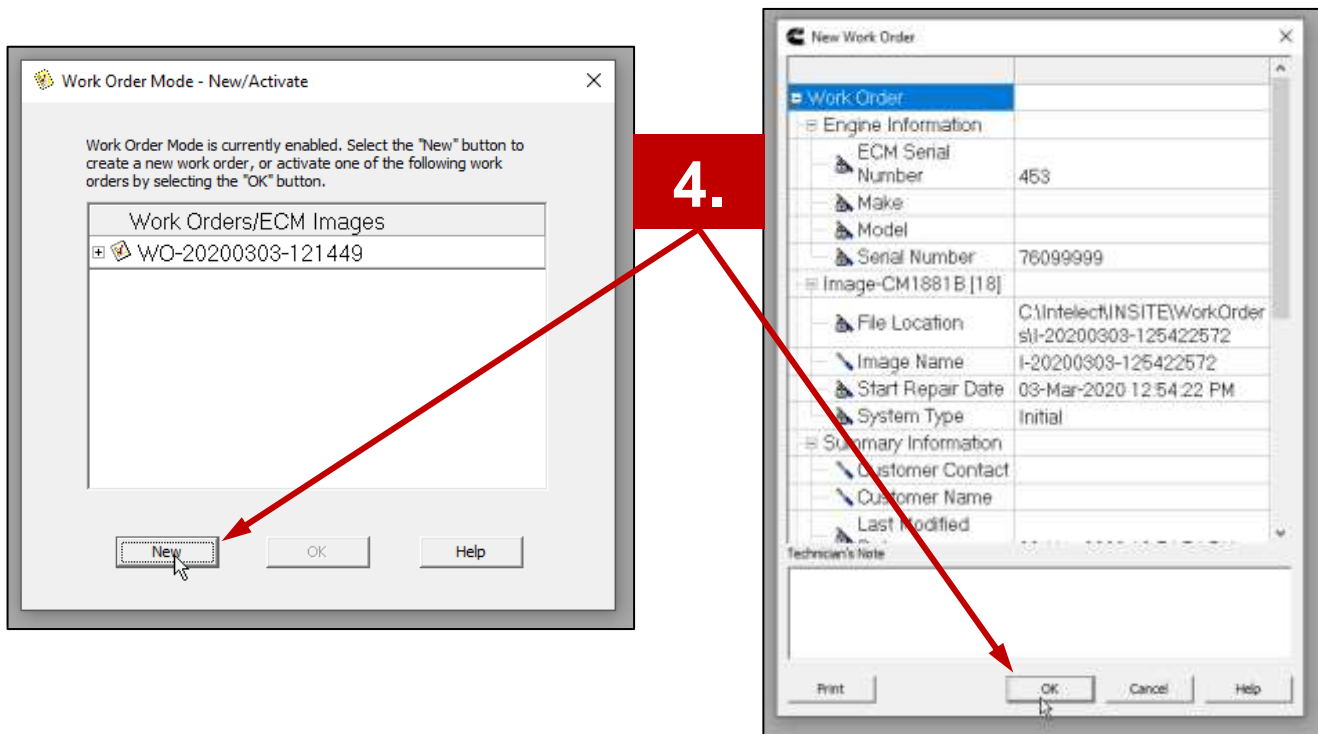

Figure 7.
Step 4: Click “New” and “OK” on the pop-up menus. *Figure 7*